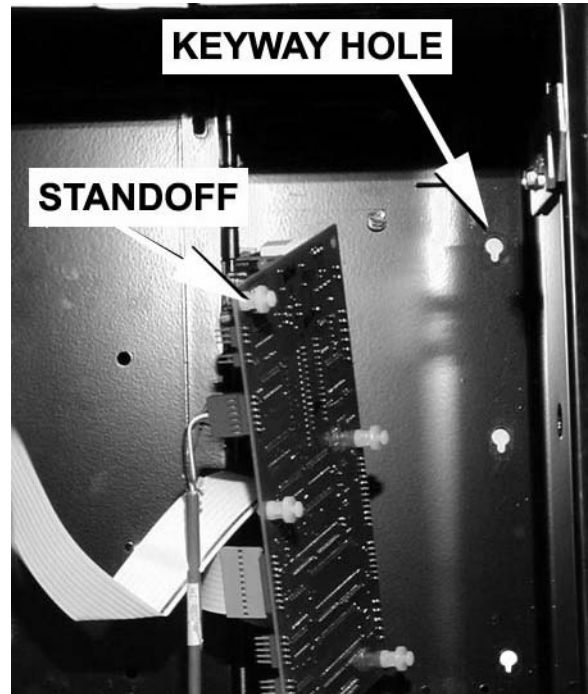

Figure 9
2. Place the board's standoffs in their respective holes and allow the board to drop so the standoffs are captured by the keyways (figure 9).